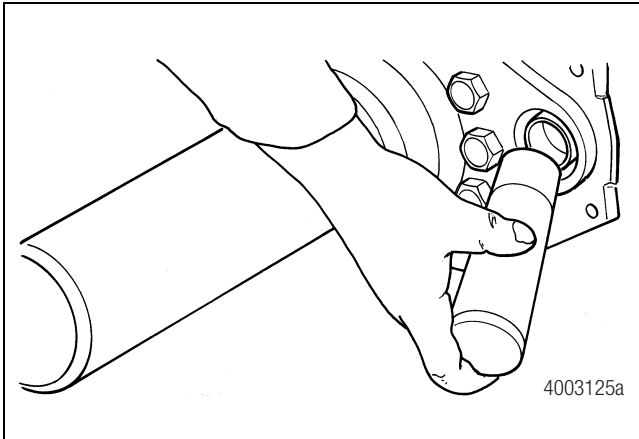

Figure 5.10
2. If removed, use a seal driver to install the new camshaft bushings and new seals into the spider and the camshaft bracket. Figure 5.10.